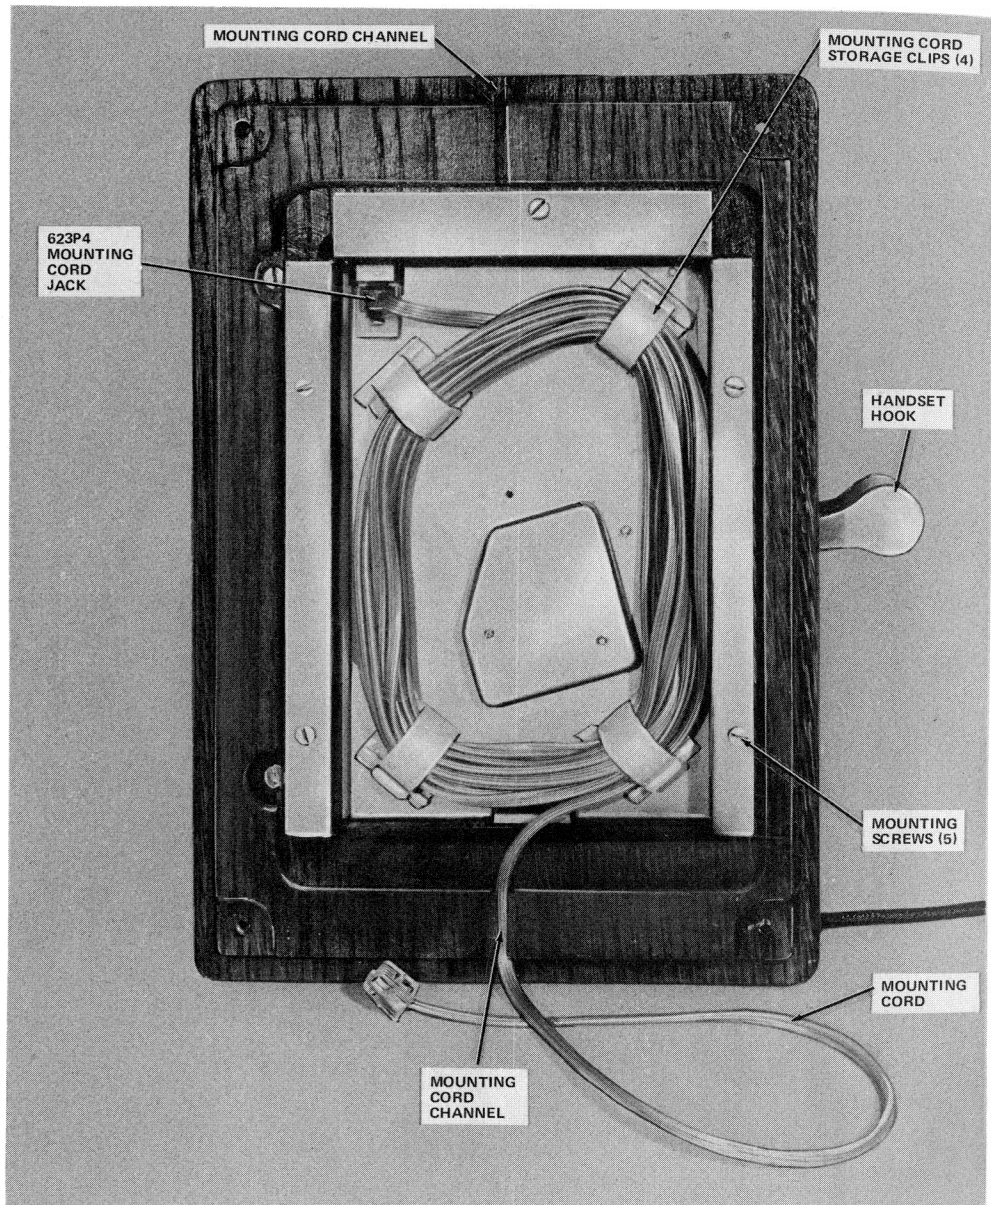

Fig. 2—951A1-03 Telephone Set, Rear View
- Reverse Fig. 2 and 3.
2.02 The 951AS1-03 telephone housing (customer-owned) is made of Oak Wood and has antique nickel metal trim details. The inside of the set consists of a 951AT telephone unit which is screw mounted through the rear of the telephone set (Fig. 2).
2.03 On the recessed rear of the set are four plastic cord clips which are to be used to store any excess cordage from the mounting cord (Fig. 2).
- (3) Drill four 5/16-inch diameter holes and install the wall screw anchors provided.
- (4) Discard the four screws used to install the wall anchors.
- (5) Wind up the excess mounting cord on the four plastic storage clips on the rear of the set. Leave about six inches of cord loose (Fig. 2).
- (6) Plug in the end of the mounting cord and secure the set to the wall anchors using the four decorative screws and washers provided.
- (1) Make sure the intended mounting location will allow the 14-foot mounting cord to reach the telephone outlet.
- (2) Place the template at a convenient height and level it.
- (3) Mark the two upper and lower mounting holes on each corner of the template.
- (4) Drill four 5/16-inch diameter holes and install the wall screw anchors provided.
- (5) Discard the four screws used to install the wall anchors.
- (6) Wind up the excess line cord on the four plastic hooks on the rear of the set housing (Fig. 2).
- (7) Dress the mounting cord into the channel on the back of the telephone set (Fig. 2).
- (8) Secure the set to the wall anchors using the set of four decorative screws and washers provided.
- (9) Dress the mounting cord to the 625-type modular connecting block and plug in the cord.